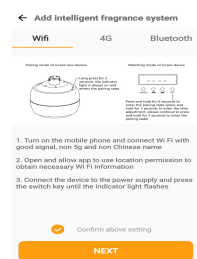

Figure 9
- (2). Follow the prompts to the next step (as shown in Figure 9).